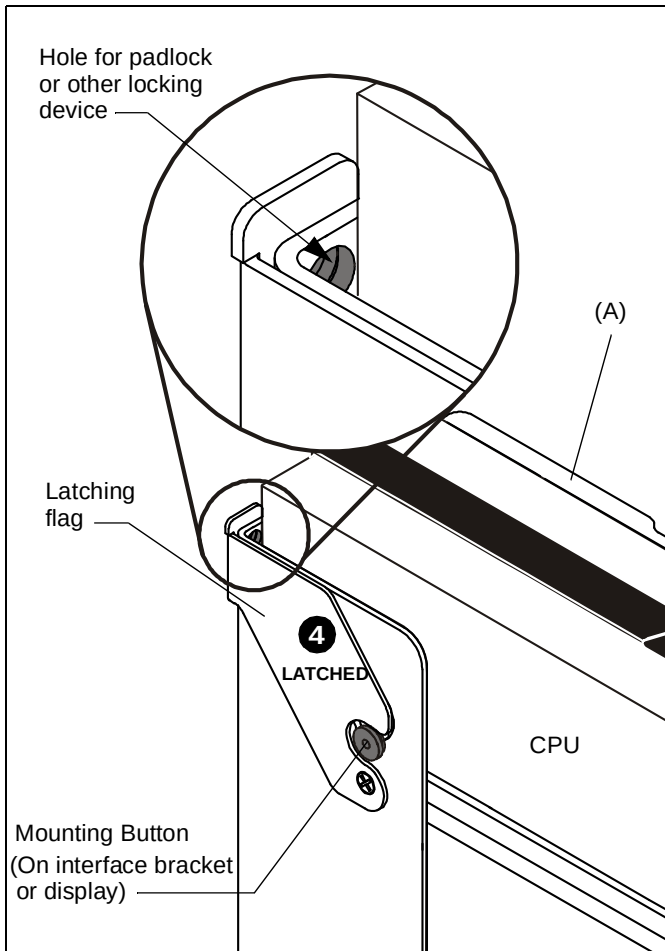

Figure 7
4. Secure display by rotating latching flag to the LATCHED position. If latching flag does not fully engage, ensure mounting buttons are fully seated in teardrop slots. (See Figure 7)